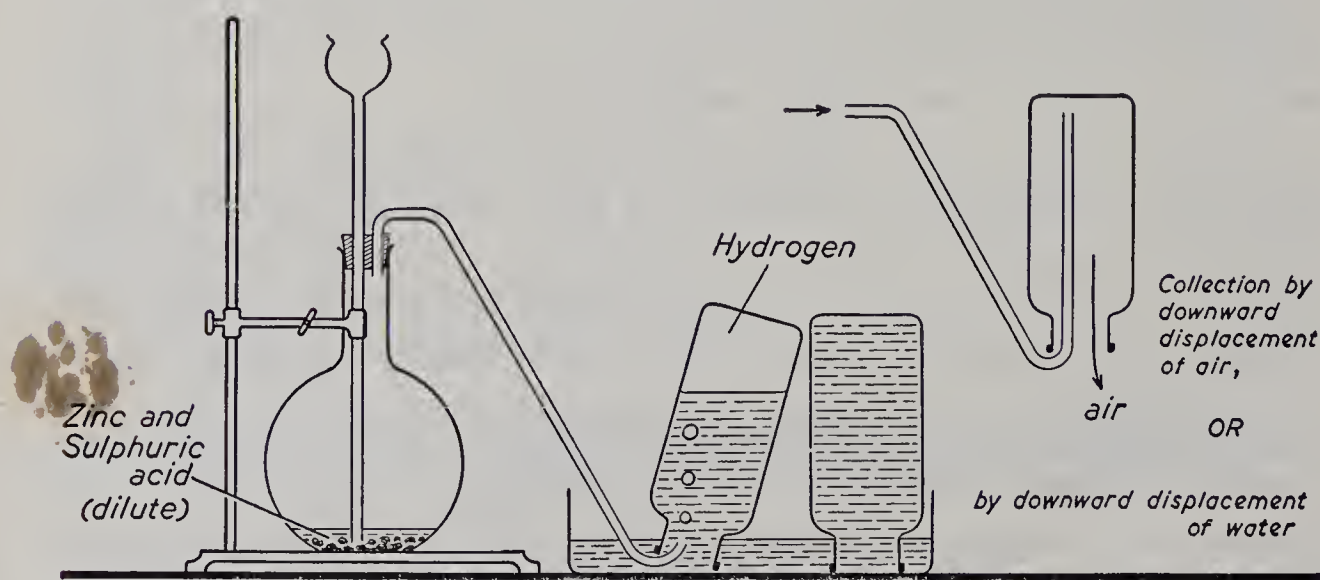

Fig. 31. The laboratory preparation and collection of hydrogen.
1. Set up the apparatus as shown in Fig. 31 and place a handful of mossy zinc in the flask. Add dilute sulphuric acid through the thistle-tube until the zinc is well covered, making sure that the lower end of the thistle-tube is covered by the acid.